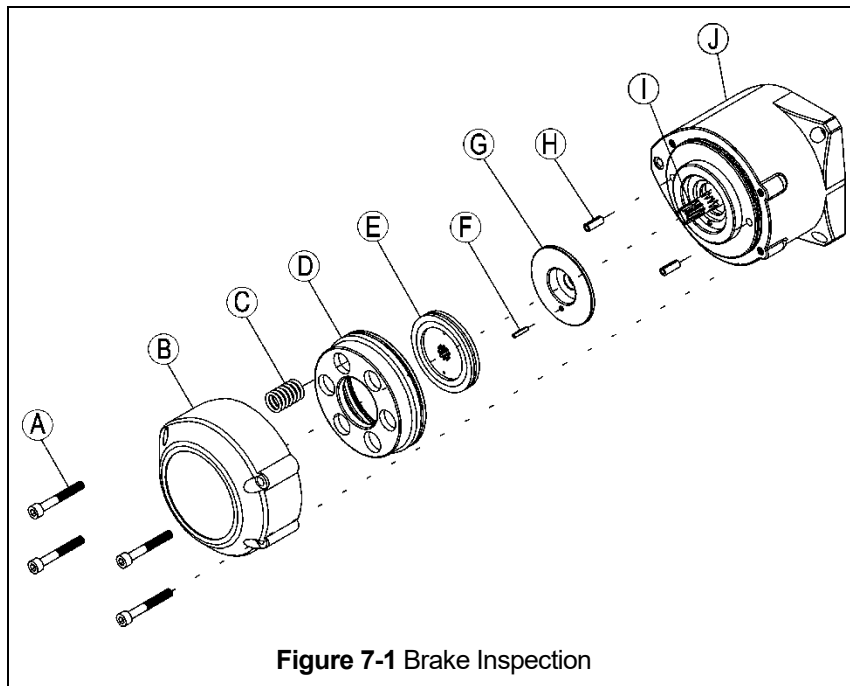

Figure 7-1 Brake Inspection
7.1.3 The following is the hoist brake inspection procedure. Refer to Figure 7-1.